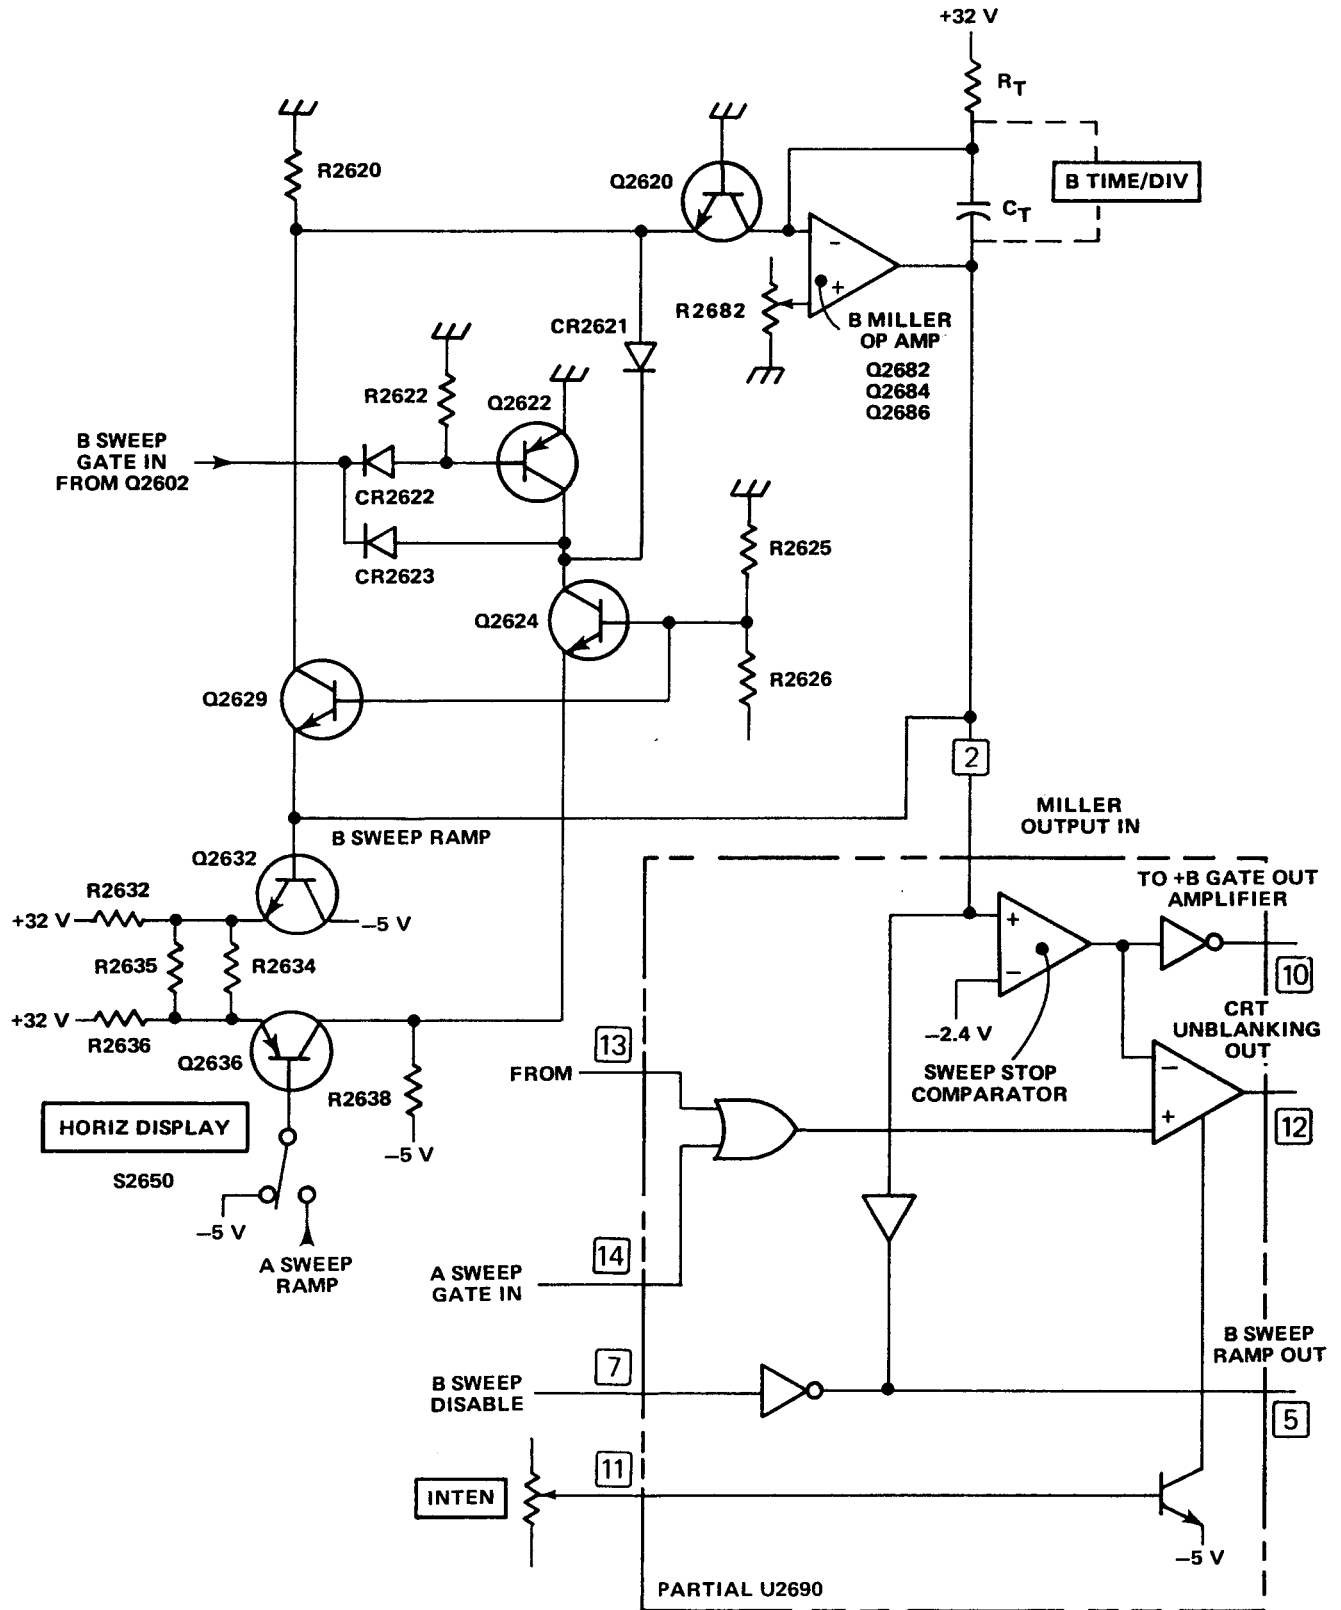
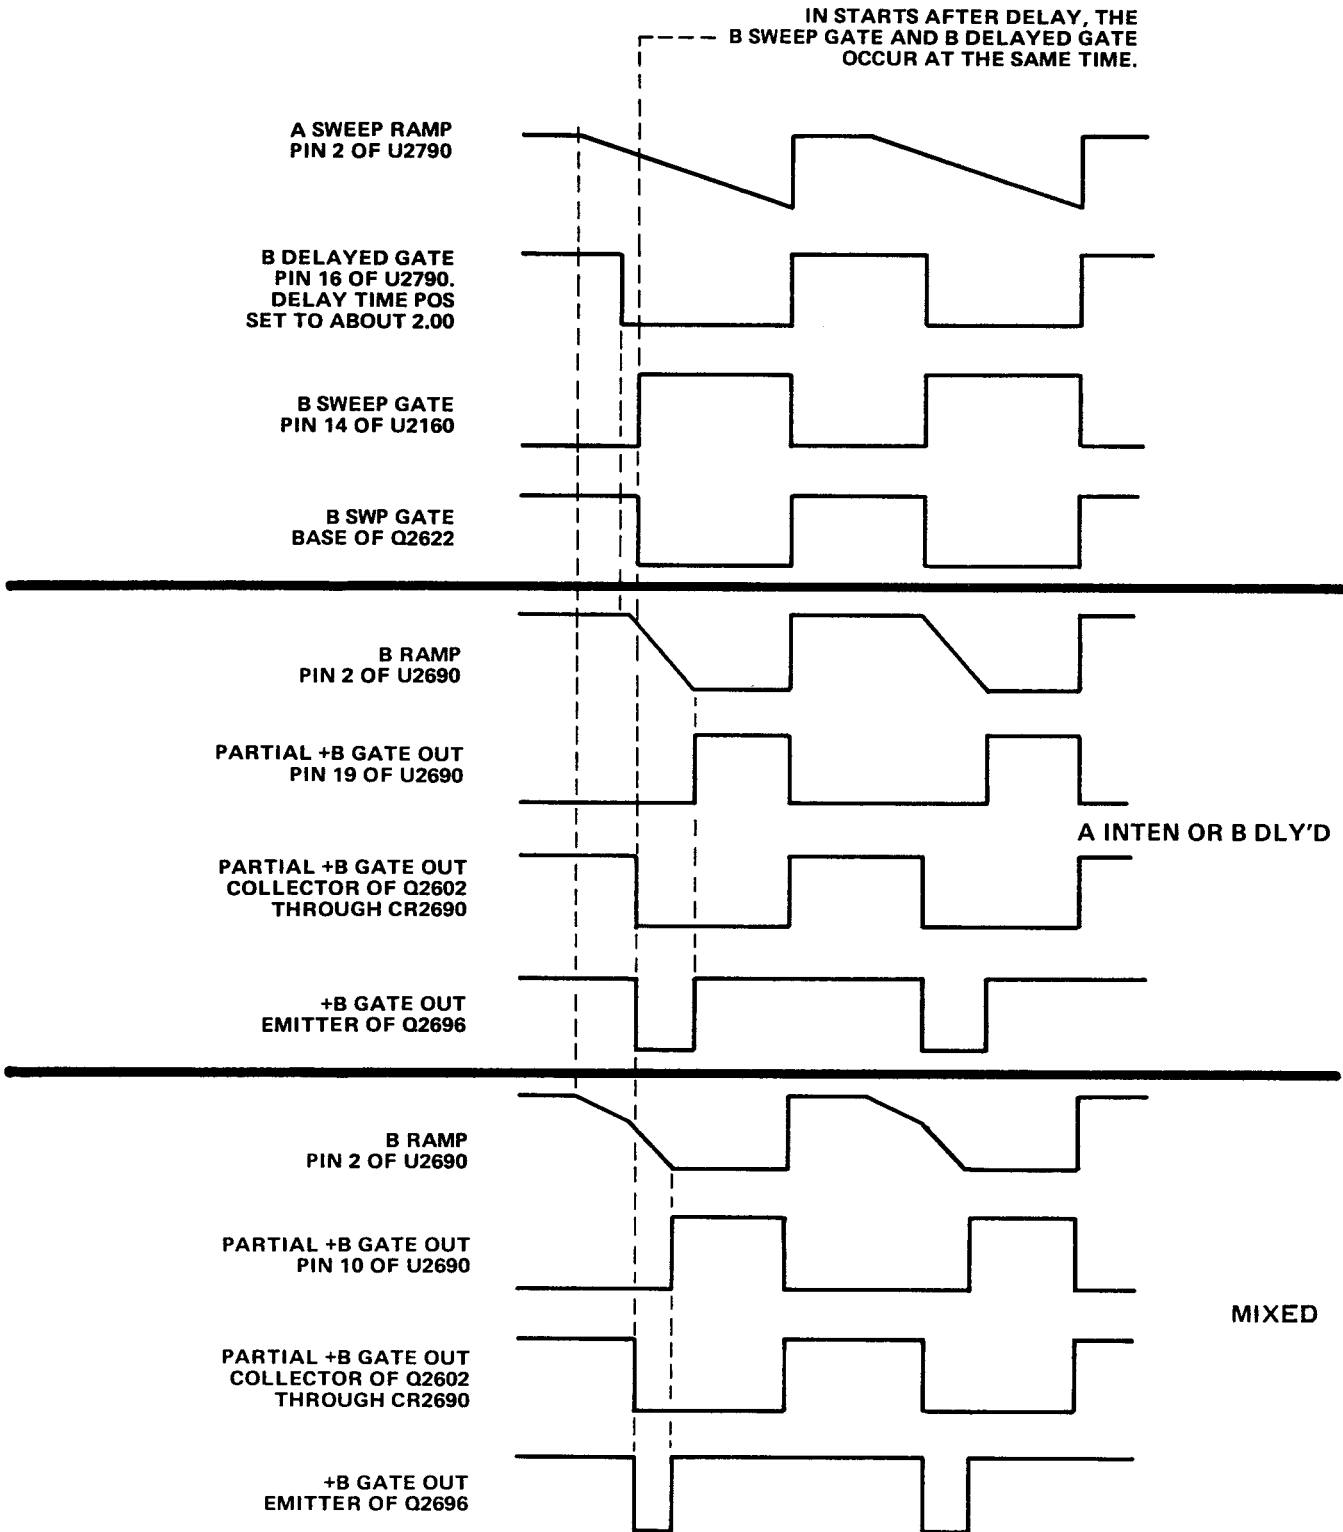

Figure 4-8. Simplified diagram of the B sweep generator.
Figure 4-9. Waveforms produced during B sweep generation
**(5) B Sweep Generator.** The B Sweep Generator consists of U2690 and associated circuitry. The B Sweep Generator integrated circuit (U2690) is the same as the A Sweep Generator integrated circuit (U2790). Both are discussed in paragraph 4-3. b. (4) (a). Figure 4-8 shows a simplified diagram of the B Sweep Generator. Figure 4-9 shows the waveforms produced during B sweep generation. Figure FO-6 shows a complete schematic diagram of the B Sweep Generator.
**(a) Sequence of Events During B Sweep Generation in B DLY'D or A INTEN Mode.** Refer to Figure 4-8 and Figure 4-9 during the following discussion. Figure FO-6 shows a complete schematic diagram of the B Sweep Generator.
**(8) +B GATE OUT Buffer.** The +B GATE OUT Buffer consists of Q2696 and associated circuitry. The input to the buffer circuit is obtained from three sources; the partial B Gate signal from pin 10 of U2690, the B sweep gate from the collector of Q2602 which is part of the B trigger amplifier, and the delayed gate signal from pin 16 of U2790. Figure 4-9 shows the time relationship of the two signals. The output of the Buffer is LO only when both input signals are LO. All three input signals are LO at the same time only while a B ramp is being generated. The output of the Buffer is supplied to the +B GATE OUT Amplifier in the Main Module.